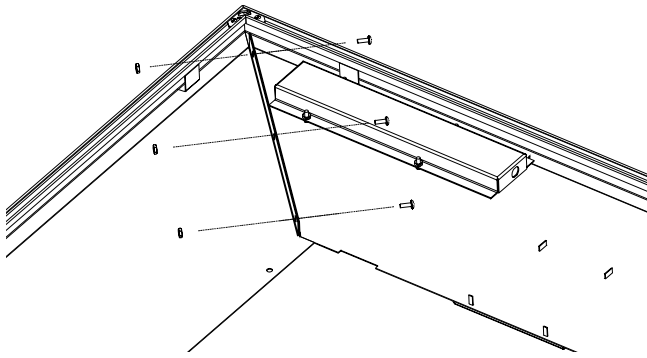

Figure 29
- 4- Assemble the sides to the top of the faceplate.(Figure 29)